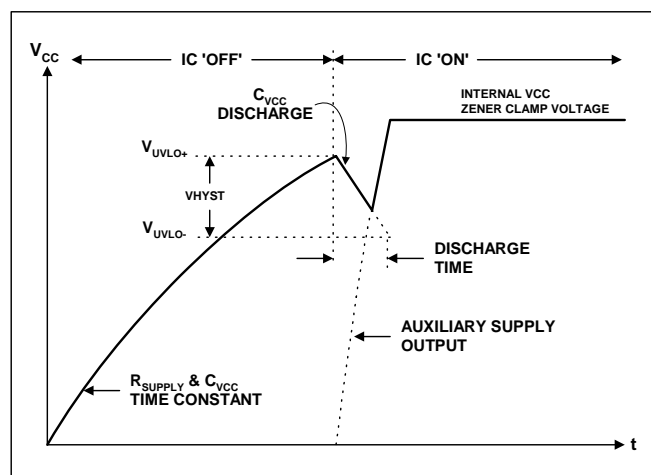

Figure 3, IC supply voltage during turn-on
on VCC reaches the start-up threshold (V_{UVLO+}), and, the voltage on RST pin is less than 1.5V, the IC turns on and the full-bridge oscillator (CT) and gate driver outputs (HO1, LO1, HO2 and LO2) begin to oscillate. The capacitor from VCC to COM begins to discharge due to the increase in IC operating current. An auxiliary supply (secondary winding, charge pump, etc.) should then take over as the main supply voltage before VCC discharges to the IC turn-off threshold (Figure 3) and charge VCC up to the internal zener clamp diode voltage (15.6V typical). During UVLO mode, the full-bridge and buck are off, the ignition timer and clock are off, the fault and good counters are reset, and the fault latch is reset.